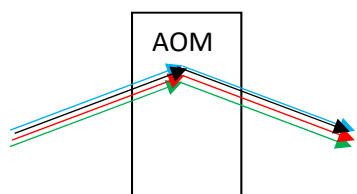

Fig. 1
- common - combined coaxial input and output beams (Fig.1)